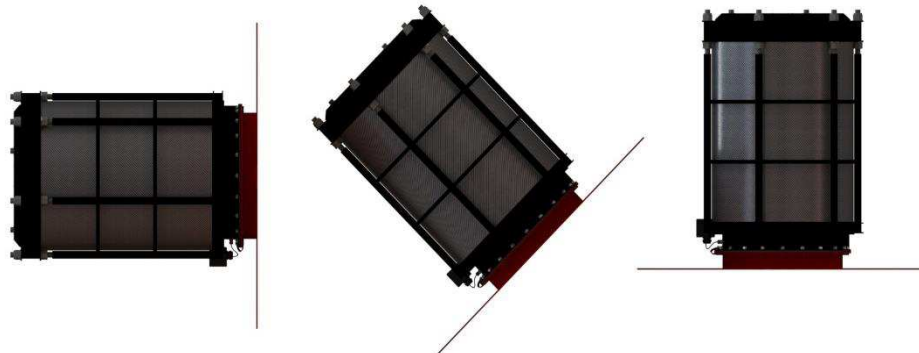

Fig. 9 - The Allowed Positioning of the Installation
- D) The FLEX devices can be installed vertically, horizontally or at an angle. The goal consists in the prevention of sticking an excessive amount of dust and dirt from the technology on the membrane. The allowed positioning of the installation is shown in fig. 9.